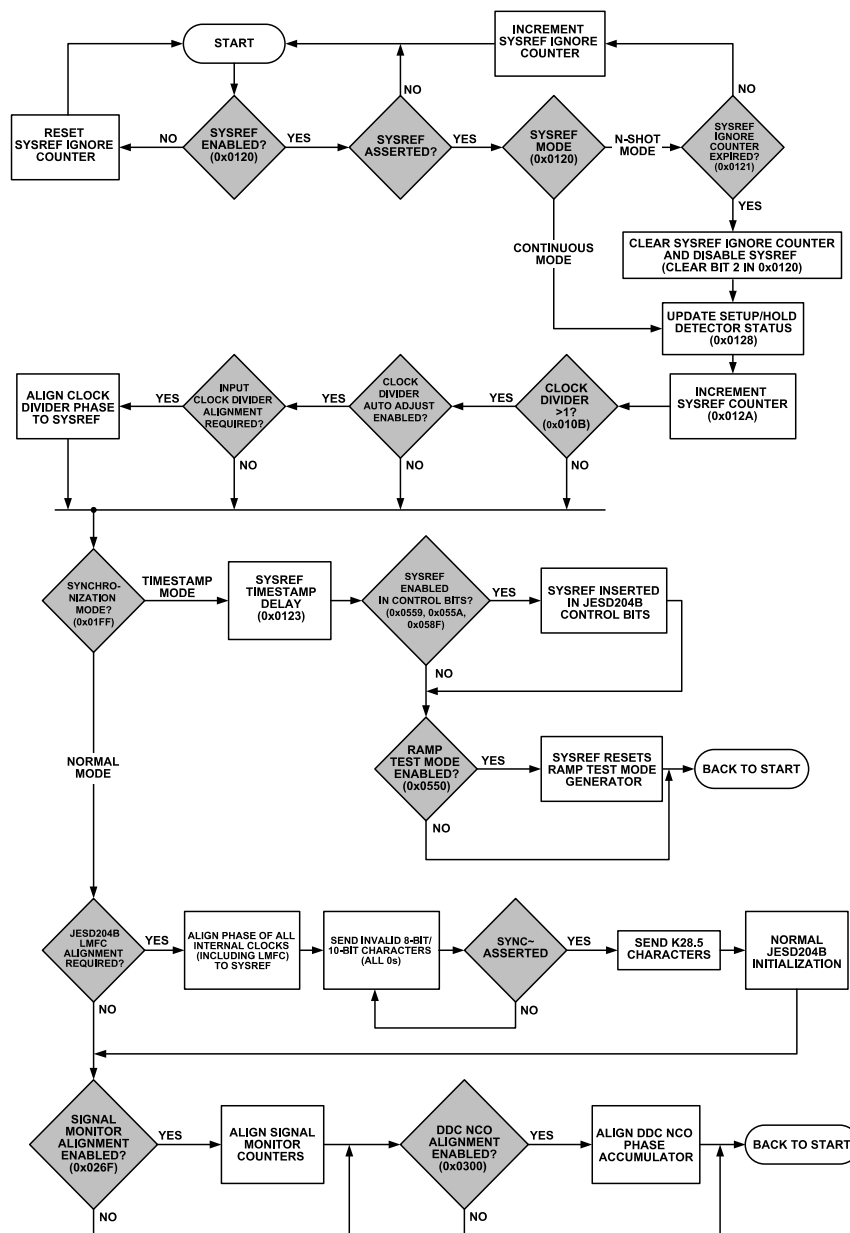

Figure 117. SYSREF Capture Scenarios and Multichip Synchronization
The flowchart in Figure 117 shows the internal mechanism for multichip synchronization in the AD9699. There are two methods by which multichip synchronization can take place, as determined by the chip synchronization mode bit (Register 0x01FF, Bit 0). Each method involves different applications of the SYSREF signal.
The default state of the chip synchronization mode bit is 0, which configures the AD9699 for normal chip synchronization. The JESD204B standard specifies the use of SYSREF to provide for deterministic latency within a single link. This same concept, when applied to a system with multiple converters and logic devices can also provide multichip synchronization. In Figure 117, this is referred to as normal mode. Following the process in the flowchart ensures that the AD9699 is configured appropriately. The user must also consult the logic devices user intellectual property (IP) guide to ensure that the JESD204B receivers are configured appropriately.